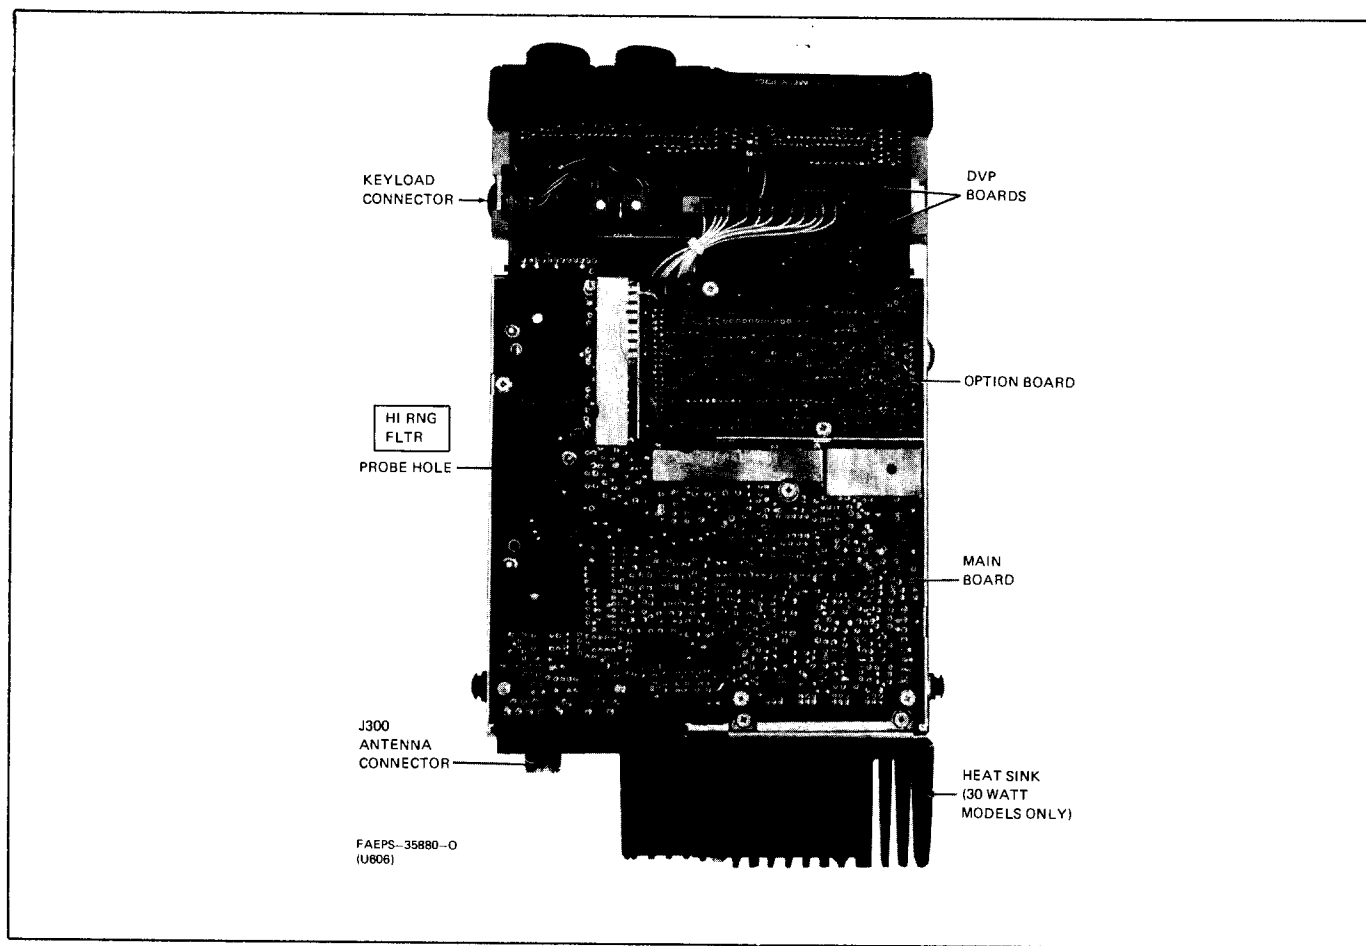

Figure 1. DVP MCX100 Radio Set-Top Cover Removed
3.1.2 The radio set is designed to make most assemblies readily accessible by removing the top cover, bottom cover, synthesizer cover, and PA shield. Refer to Figures 1 and 2. The assemblies for the radio set are listed below.
3.3 EXTERNAL HEAT SINK (Refer to Figure 1)
3.6 MAIN BOARD (Refer to Figure 1)
Option boards are mounted in the option area located on the top of the radio in front of the main board as shown in Figure 1.
(Refer to Figure 1)